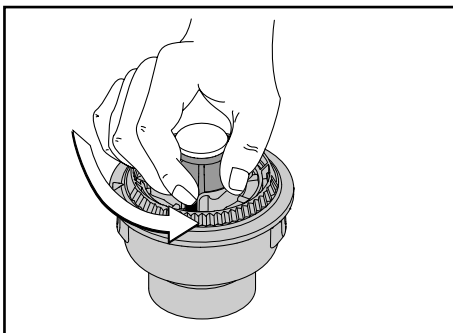

Fig. 24
1. If you need to remove the Bump Knob to clean the spool or remove jammed, excess line, hold the outer spool, and unscrew the Bump Knob counterclockwise (Fig. 24).